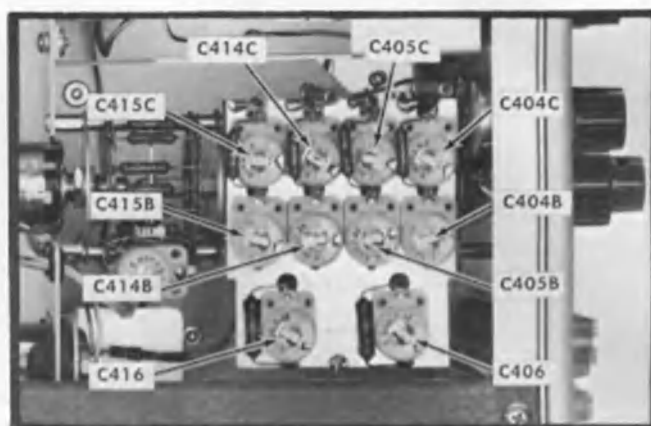

Fig. 6-18. Attenuator compensation adjustment locations, Vertical Amplifier (left side).
g. Adjust C416 for optimum square-wave with flat top. Fig. 6-18.
x. Repeat the procedure outlined in steps (d) through (u), referring to Table 6-3 for control setting adjustments required, and waveform tolerances. The VERTICAL —INPUT attenuator adjustment locations are shown in Fig. 6-18.